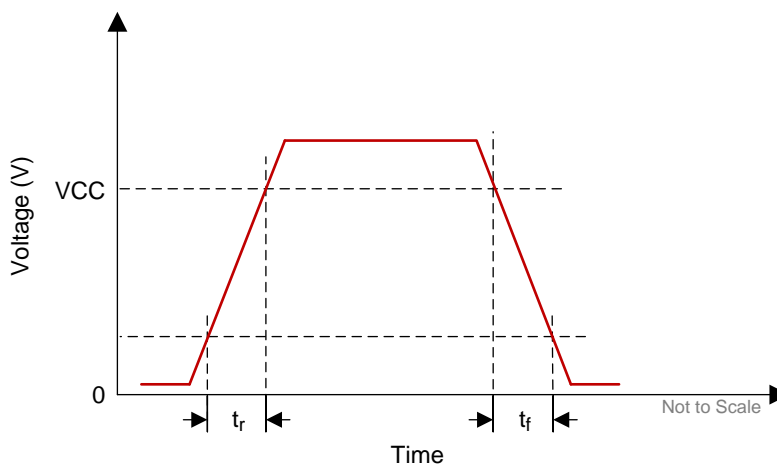

Figure 3. SCP Requirements for Rise and Fall
(1) See Figure 3 for rise time and fall time for SCP.